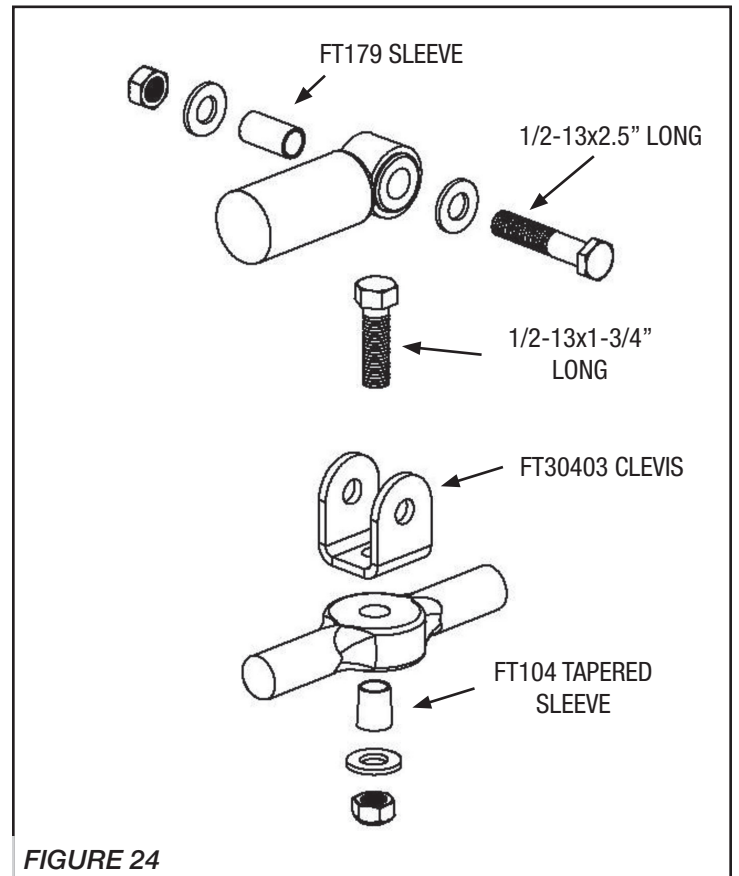

FIGURE 24
28. Locate the factory steering stabilizer. Use a die grinder with a sanding disc and remove the staked washer from the back of the stabilizer mounting pin. Locate FT179 Sleeve, FT30403 Clevis, FT104 Tapered Sleeve, and the supplied 1/2" Hardware. With the factory mounting pin removed from the stabilizer, insert the new sleeve into the stabilizer and attach it to the drag link. Torque the 1/2" bolts to ** 90 ft. lbs. **SEE FIGURE 24**